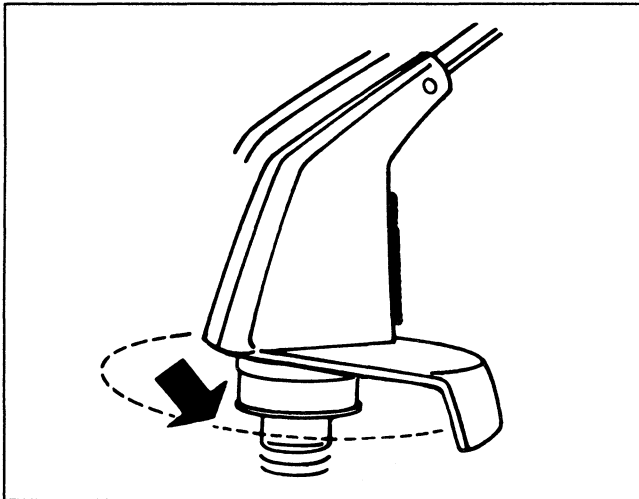

Figure 14
1. To lengthen line, firmly tap spool on the ground while the motor continues to run. The line will be fed from the spool and cut off to the proper length by the cutting knife attached to the shield (Fig. 14).